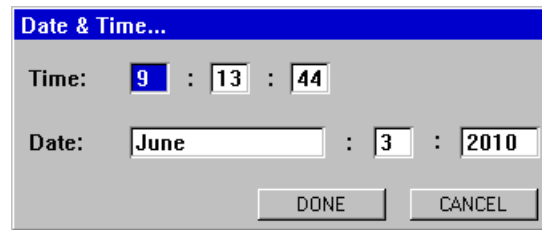

Figure 33: Date & Time... Menu
- 4 Press the rotary knob a second time to open the Date & Time menu (see Figure 33 below).